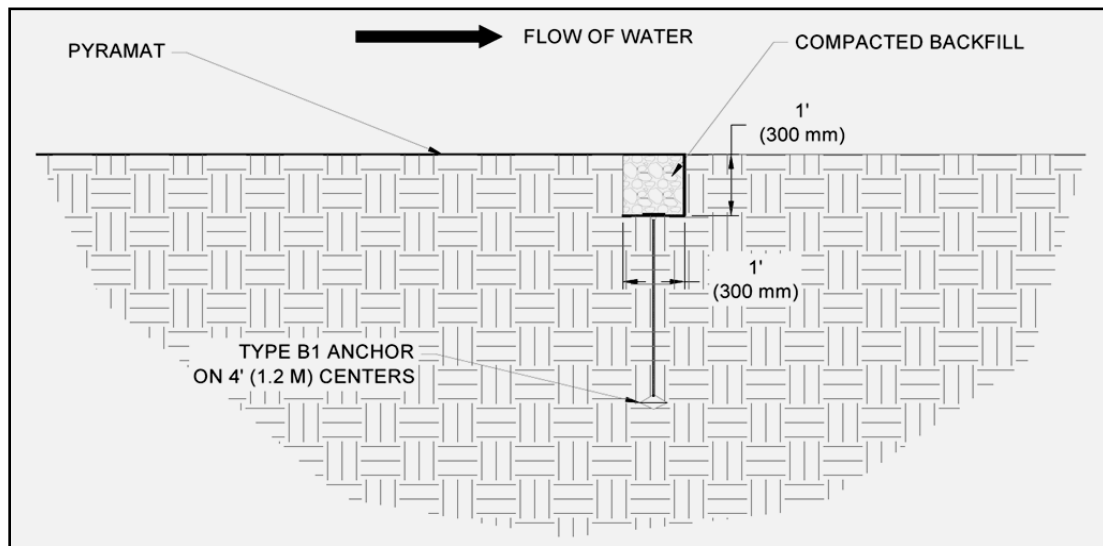

Figure 1: Initial Channel (IC) Trench
3. Excavate an Initial Channel (IC) trench a minimum of 12 in x 12 in (300 mm x 300 mm) across the channel at the downstream end of the project (Figure 1). Deeper IC trench and/or hard armoring may be required for channels that have the potential for scour.